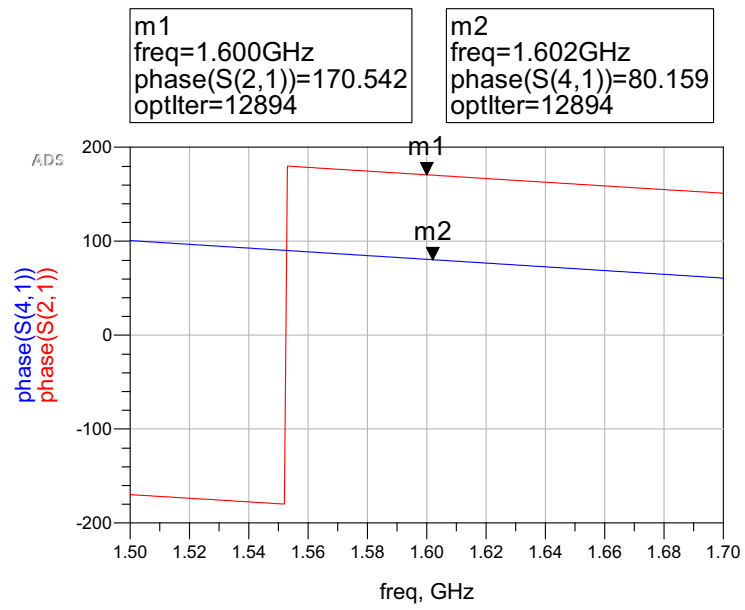

Figure 11: Simulated $S(2,1)$ and $S(4,1)$ phase difference.
-3 dB at 1.6 GHz. As can be seen from figure 11, the two components are approximately 90° out of phase.